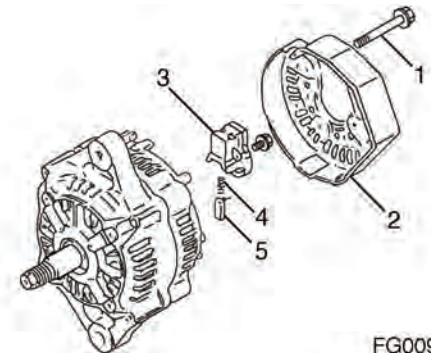

Figure 388
2. Remove the three bolts (1, Figure 388) retaining the rear cover (2, Figure 388) to the rear frame assembly.
3. Remove the brush holder (3, Figure 388). Remove the brush springs (4, Figure 388) and brushes (5, Figure 388).